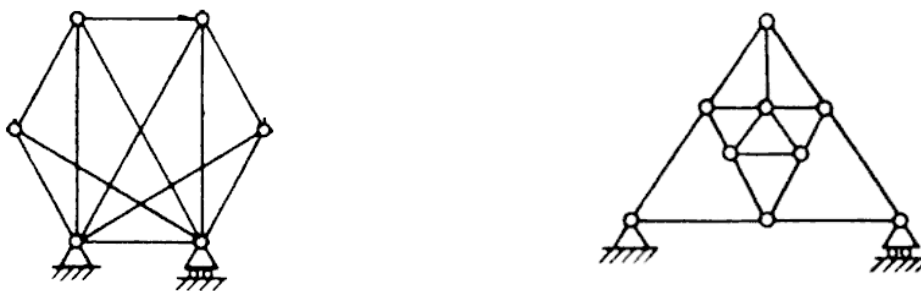

Figure 1.8
9. Determine degree of freedom for the following beam shown in Figure 1.8